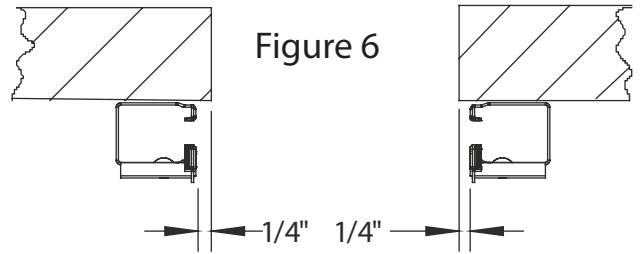
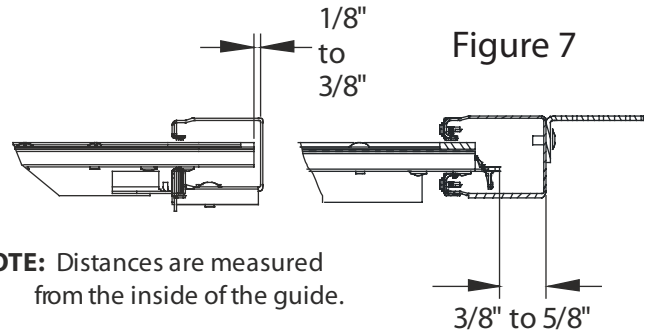

Figure 6
Figure 7
7. Position guides to opening as shown in Figure 6. Clearance between curtain and inside of guides is shown in Figure 7. Adjust curtain or guides as necessary to achieve this spacing. Secure guides to jambs with supplied fasteners. See Table 2.
12. Check both guides to insure the clearance shown in Figure 7 is maintained along the full length of the guides. Adjust both guides for clearance if necessary and secure.